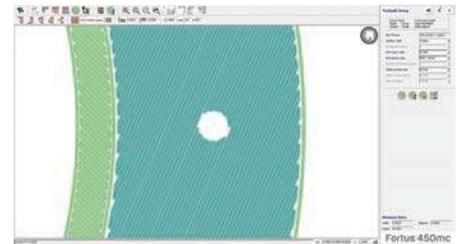

Figure 10: Generating the toolpaths.
STEP 12: Generate toolpaths (Figure 10).